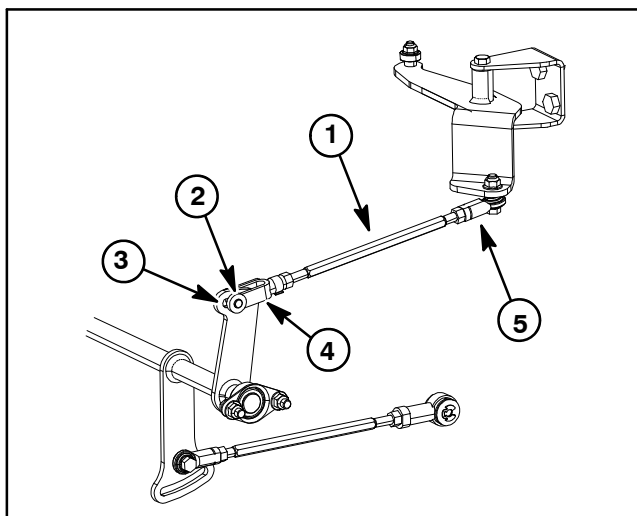

Figure 58
5. For correct operation of Automatic Speed Control (ASC), adjust the ASC control arm as follows (Fig. 58):